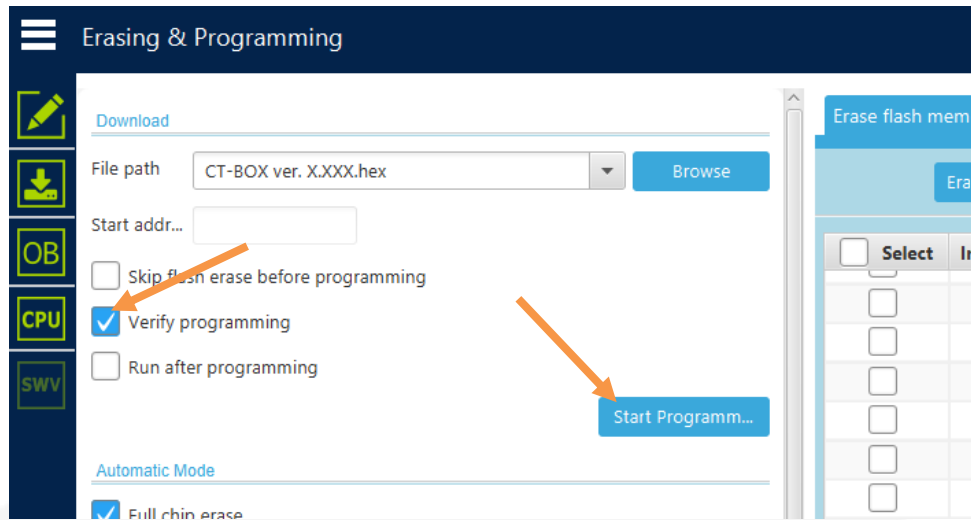

Figure 24: Programming new firmware
- Check the box **Verify programming** and click **Start Programming** (Figure 24);